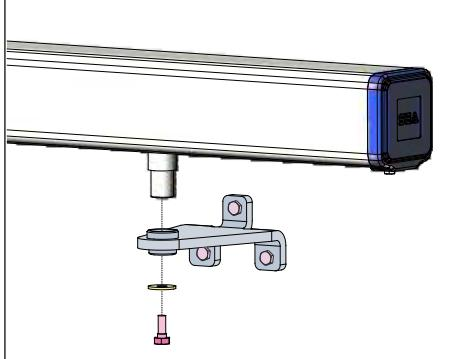

Fig. 34
- Place the operator shaft in the housing of the front bracket - Fig. 34
- Secure the shaft to the front bracket by tightening the screw - Fig. 34